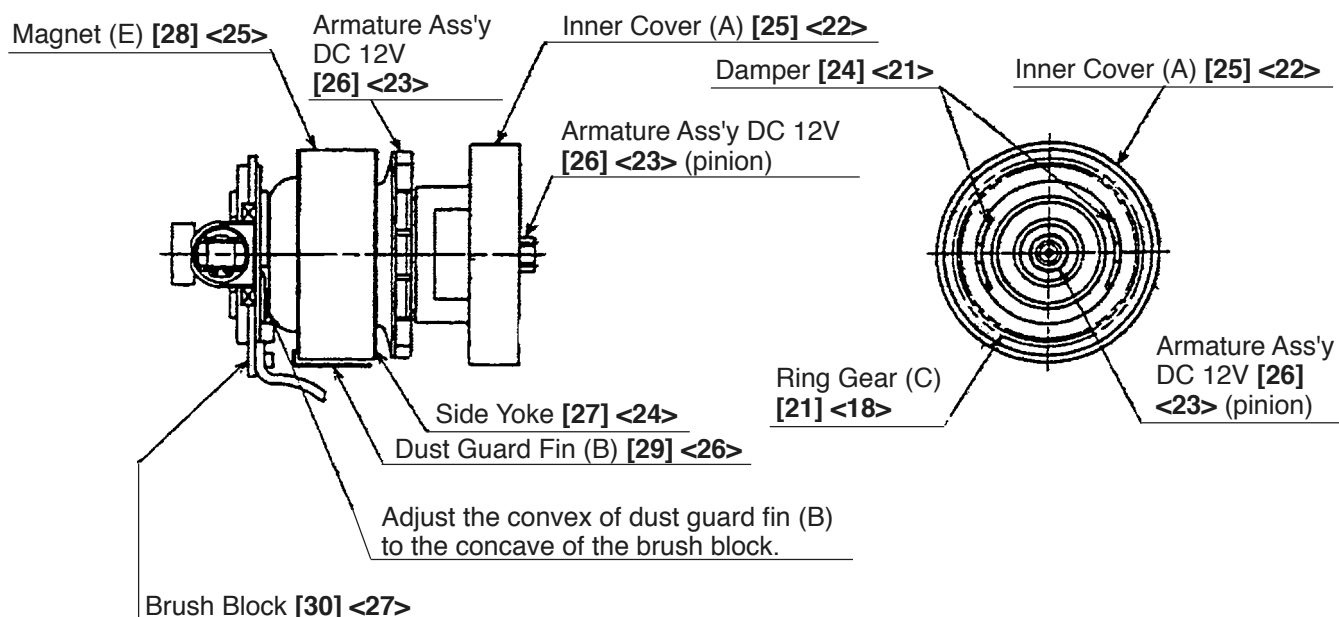

Fig. 11
(10) Removal of Magnet (E) [28] <25>, Dust Guard Fin (B) [29] <26> and Side Yoke [27] <24>
Remove Magnet (E) [28] <25> in the "B" direction (see Fig. 11) holding Inner Cover (A) [25] <22> securely because Magnet (E) [28] <25> has a strong magnetism. Dust Guard Fin (B) [29] <26> and Side Yoke [27] <24> can be easily removed from Magnet (E) [28] <25> by holding Magnet (E) [28] <25> securely and pulling them in the direction of diameter because they are mounted to Magnet (E) [28] <25> magnetically.